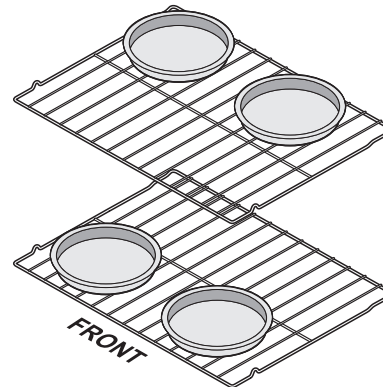

Figure 15: Suggested pan placement for best results when baking with multiple pans on two racks.
- When baking cakes using two oven racks place bakeware in positions 3 and 5 and place bakeware as shown in Figure 15.